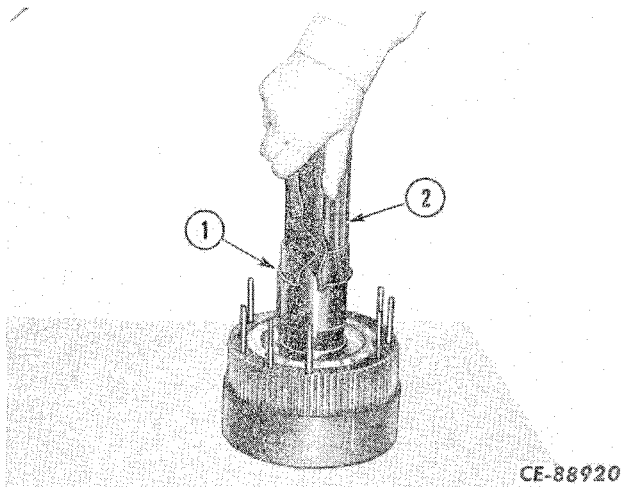

Figure 4-113
Remove the locating snap ring (1, Fig. 4-113) from the groove in the shaft (2).